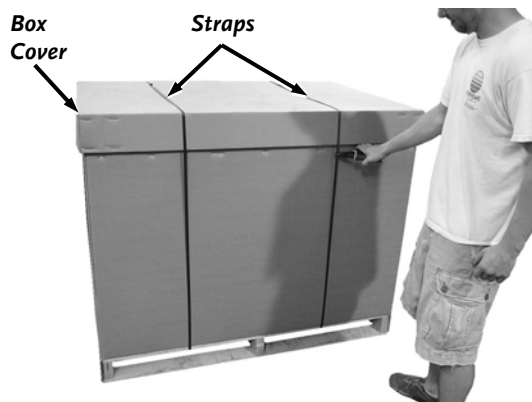

Figure 2
1. Cut the two Straps securing the Box Cover and remove the Cover (**Figure 2**).